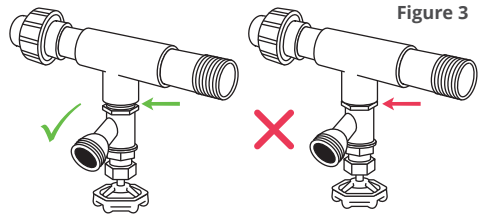

Figure 3
- Hand tighten the drain valve into the 1/2" female threaded tee. Then, tighten 1-2 more turns with a wrench (Figure 3).